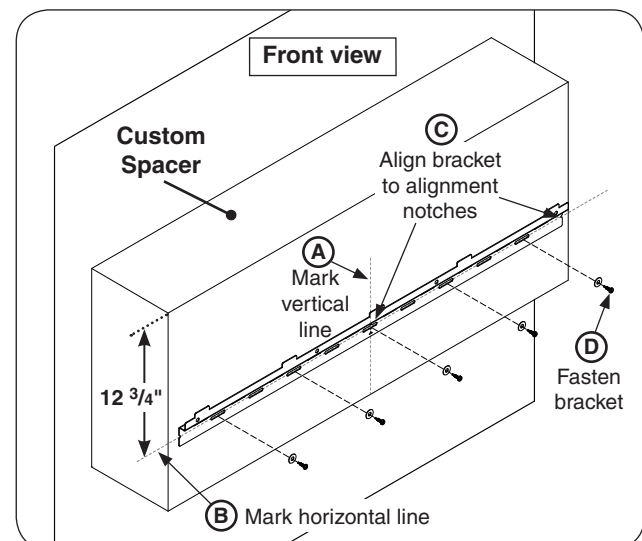

Fig. 14-3 Install bracket to custom spacer
1. Locate the "left-to-right" center of the spacer and pencil a vertical line. Then pencil a horizontal line 12 3/4" down from the top of the spacer (see Fig. 14-3, A-B).
2. Place the bracket over the two lines. Use the alignment notches in the center and sides of the bracket to properly locate and assist in leveling (see Fig. 14-3, C).
3. Using appropriate mounting hardware for the spacer construction, secure the bracket onto the spacer (see Fig. 14-3, D).